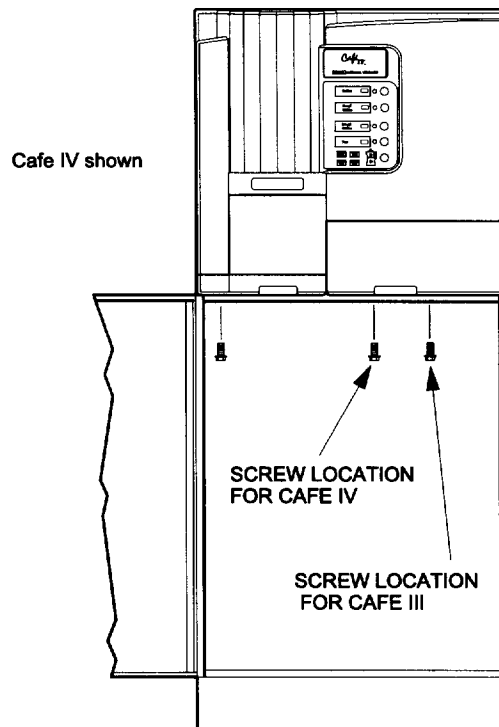

Figure 3
4. Secure the machine to the base cabinet by inserting the four thread cutting screws up through the holes of the base cabinet, and into the plastic feet of the machine. **Take care not to over tighten and strip the plastic feet (figure 3).**